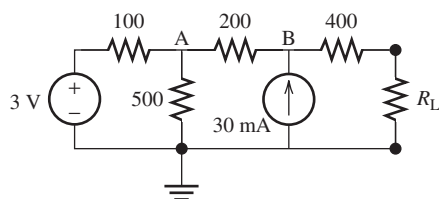

FIGURE P3.66 Circuit for Problem 3.66.
- 3.66** (H) If $R_L = 0$, which source in Figure P3.66 contributes the most to the power dissipated in the 500- Ω resistor? Which contributes the least? What is the power dissipated in the 500- Ω resistor? Does it equal the sum of power dissipation contributed by each source?